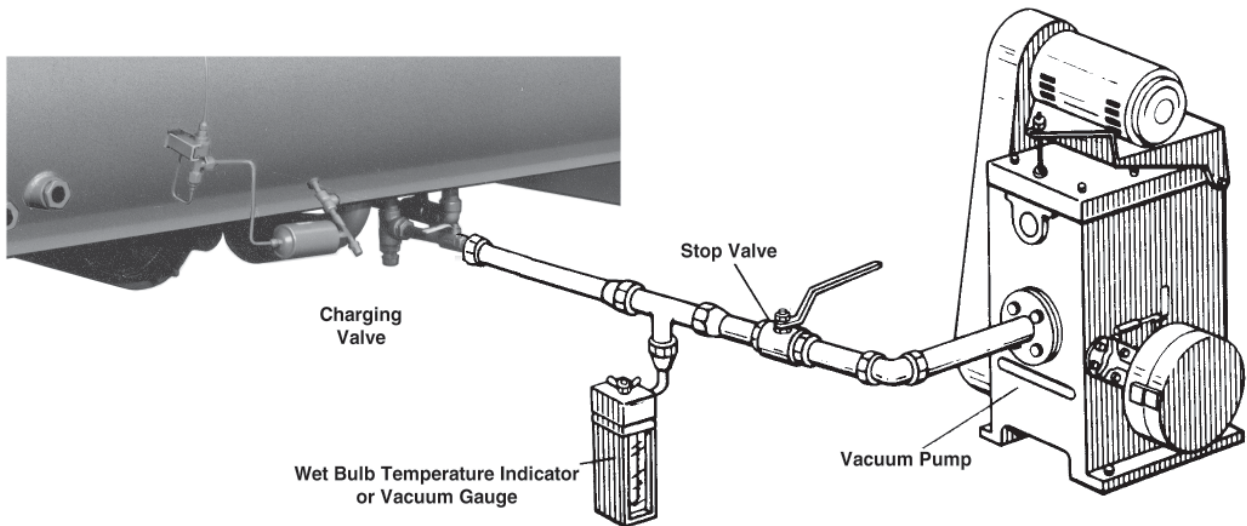

Figure 7.3 Unit Evacuation
1. Connect a high capacity vacuum pump, with indicator, to the system charging valve as shown in figure 7.3 and start the pump.